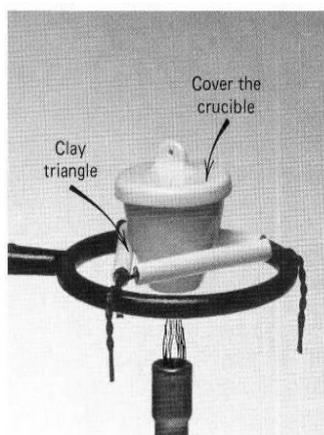

Figure T.15d Ignition of a solid sample in the absence of air.
- Igniting Contents in the Absence of Air.** To heat a solid sample to a high temperature but *not* allow it to react with the oxygen of the air, set the crucible upright in the clay triangle with the cover in place (Figure T.15d). Use the crucible tongs to adjust the cover.